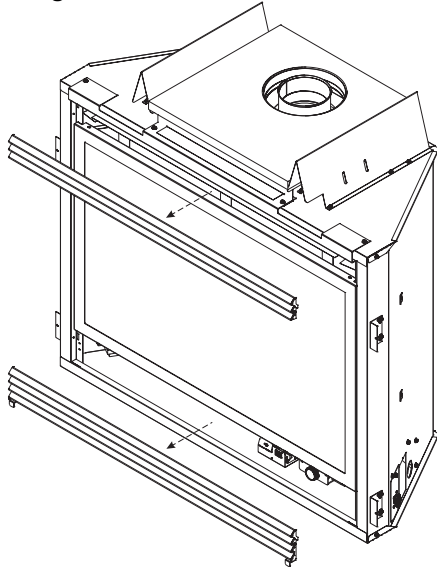

Figure 95
1. Remove top and bottom louvers by lifting up and pulling them out. See Figure 95.